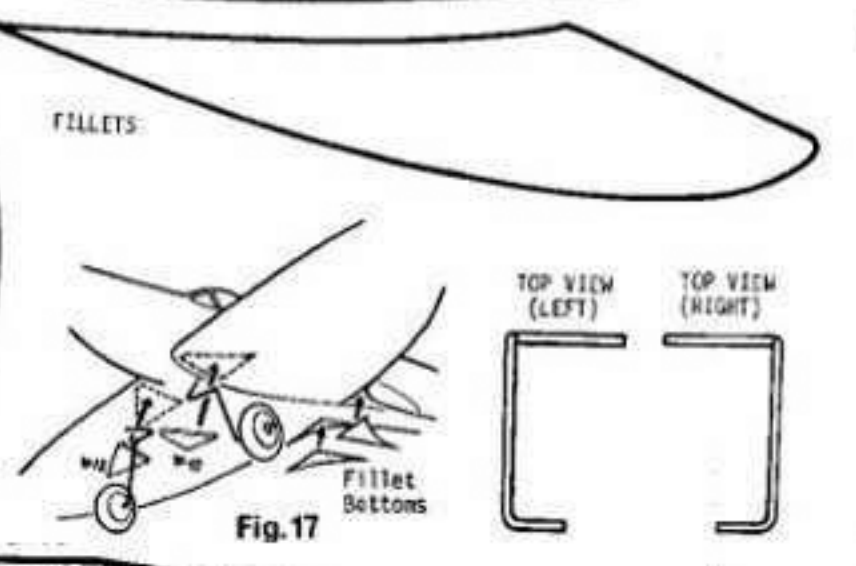
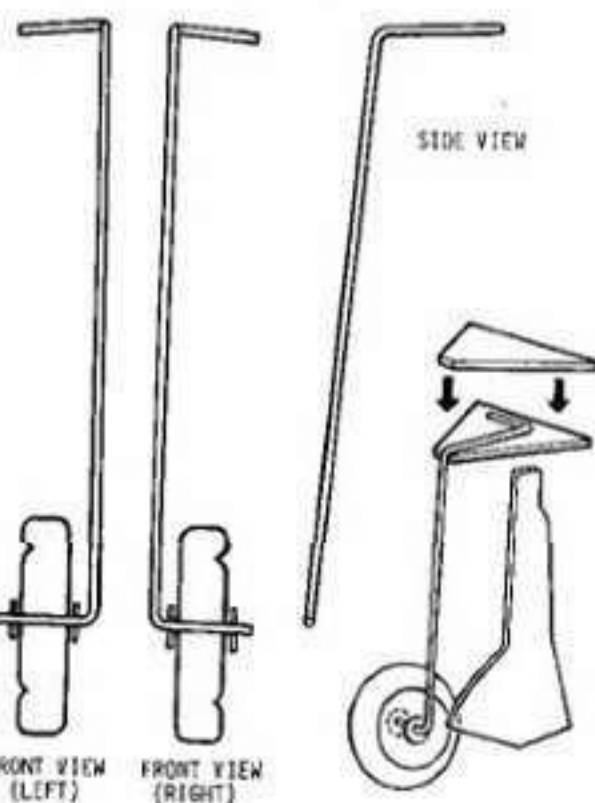

FIG. 17
FIG. 18
STEP 17. Glue landing gear wire between two M 12 pieces (Fig. 17). Bend wire as indicated. Glue K 1 and K 2 into position (Fig. 18).